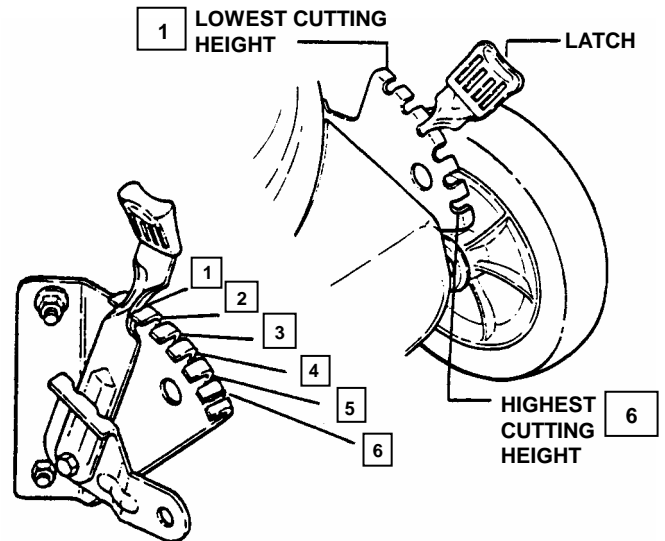

FIGURE 2.5
1. Pull the height adjusting latch outward and move to desired cutting height. See Figure 2.5.